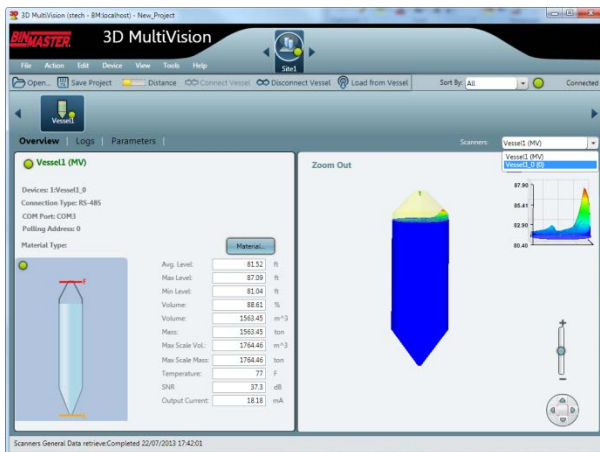

Figure 29: 3DMultiVision Vessel Overview tab
**NOTE:** It is possible to change at any time the communication method, switch user to technician, select the scanner from the scanner selection drop-list appear above the 3D image (see Figure 29), and go to the parameters tab, disconnect the scanner and set the new communication method and parameters. Press Save to save the project.
- 2 Double click the vessel in the vessel selection bar to open the vessel measurements and details in the main work area (Figure 29). The *Overview* tab shows how many scanners are set for this vessel and their connection status.
**NOTE:** If the selected vessel contains more than one scanner and the user has technician privileges, a scanner selection list appears (see Figure 29). Select the required scanner for configuration from the list.